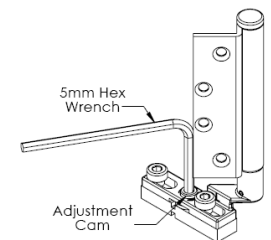

Figure A2:
- To shift the bottom of the panels to the left or right, loosen the 2 Cap Screws in the Pivot Arm using the 5mm wrench. Using the same 5mm wrench turn the Cam located between the 2 Cap Screws clockwise/counterclockwise depending on desired direction. Once the panel is set in the desired location, tighten the 2 Cap Screws to lock the horizontal location (Figure A2).